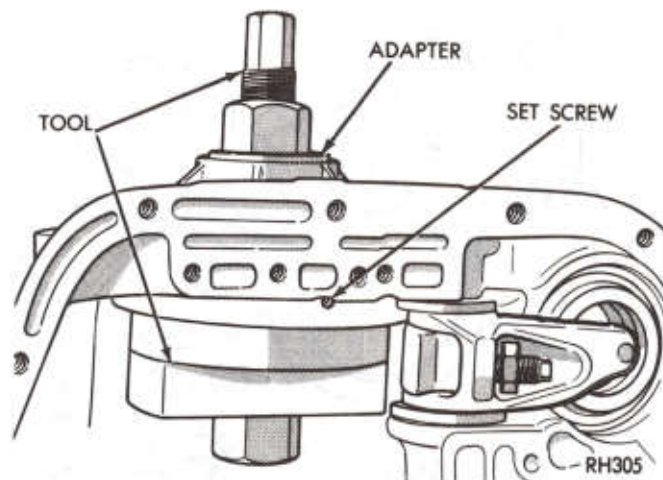

Fig. 41—Install Overrunning Clutch Cam (A-727)
(6) Install Tool C-3863A and Adapter SP-5124 as shown in Figure 41, tighten nut on tool to seat cam into the case. Make sure cam is firmly bottomed, then install cam retaining set screw. Stake the case around set screw to prevent it coming loose.